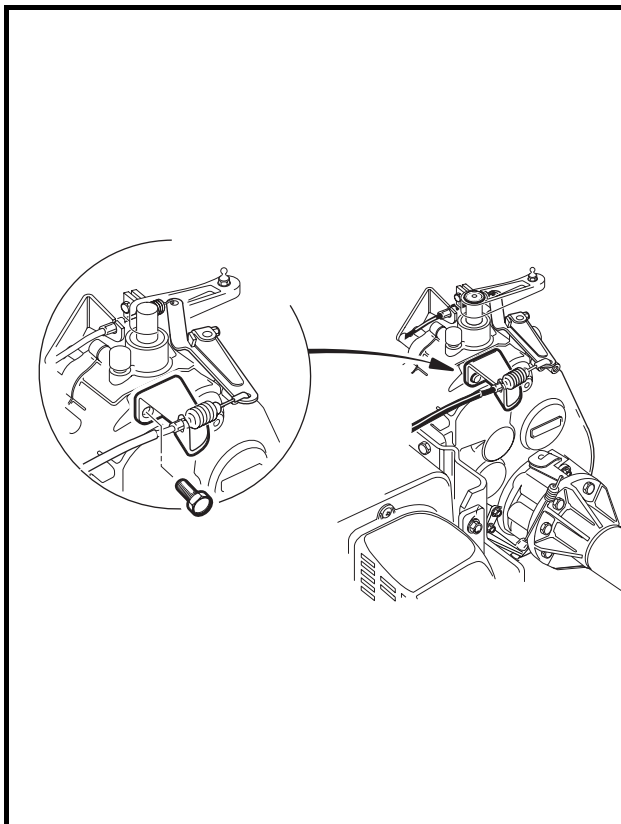

Figure 16-42 Governor Cable Bracket
8. Install the governor cable bracket on transaxle case and tighten the mounting screws to 134 in-lb (15.1 N·m) (**Figure 16-42, Page 16-17**).